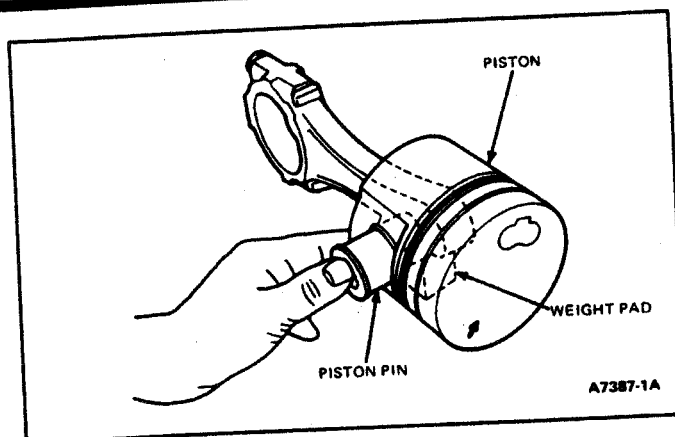

FIG. 84 Piston and Connection Rod Assembly
1. To assemble piston to connecting rod, position rod into piston so that connecting rod weight pad and large chamfered side is located against crankshaft face and top of piston's arrow faces camside (Fig. 84).